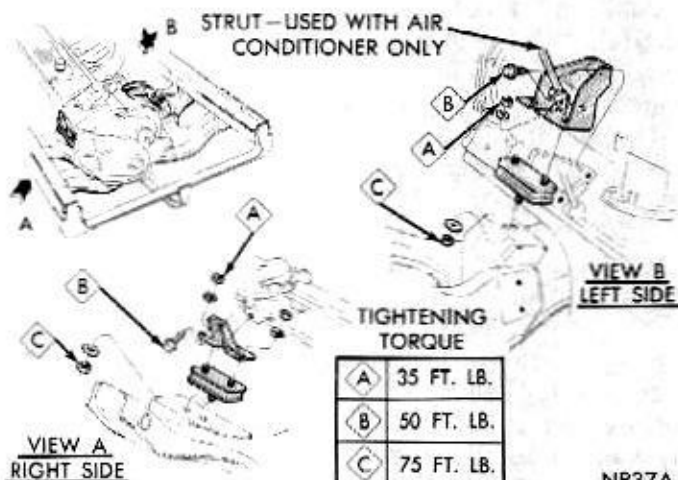

Fig. 5—Front Engine Mounts
(17) Install engine lifting fixture Tool C-3804 to cylinder head and attach a chain hoist to fixture eyebolt.
(18) Remove engine support fixture.
(19) Remove front engine mount bolts (Fig. 5).
(20) Lift engine from engine compartment and install in engine repair stand.